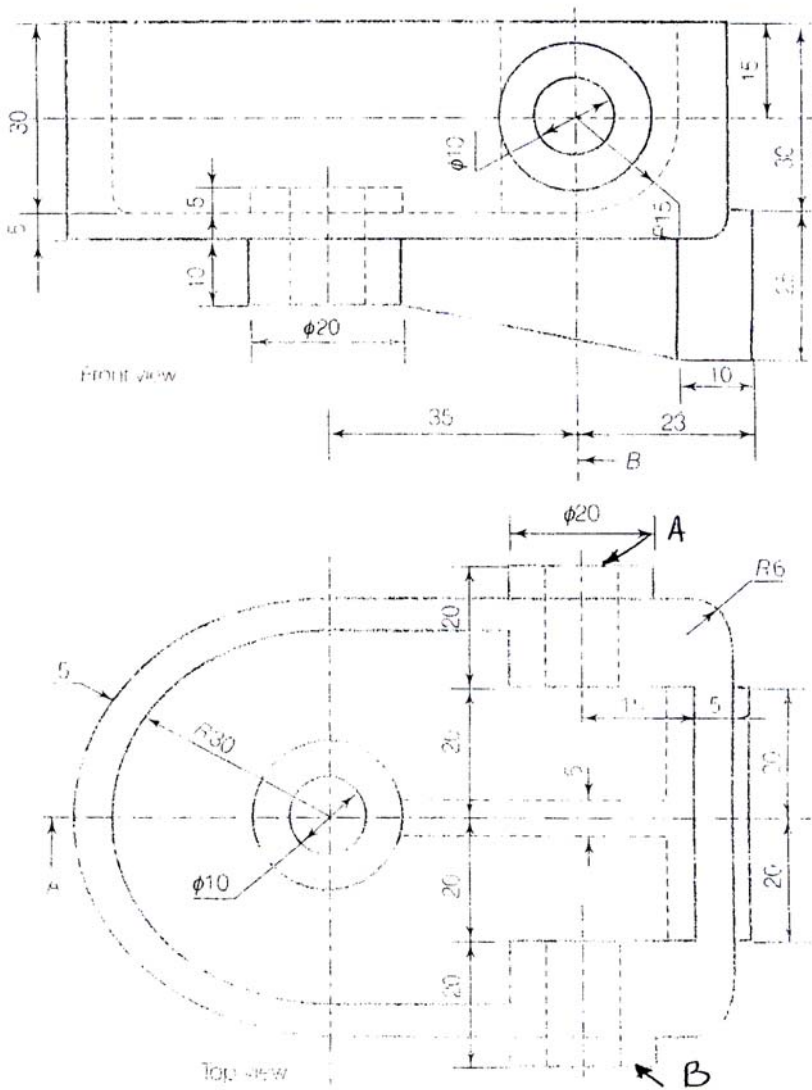

fig. no. 1
11. Design a jig for drilling Φ 10 mm holes for a component shown in fig. no 1. **20**
12. Design a milling fixture to face a Φ 20 mm at A and B for a component shown in fig. no 1. **20**